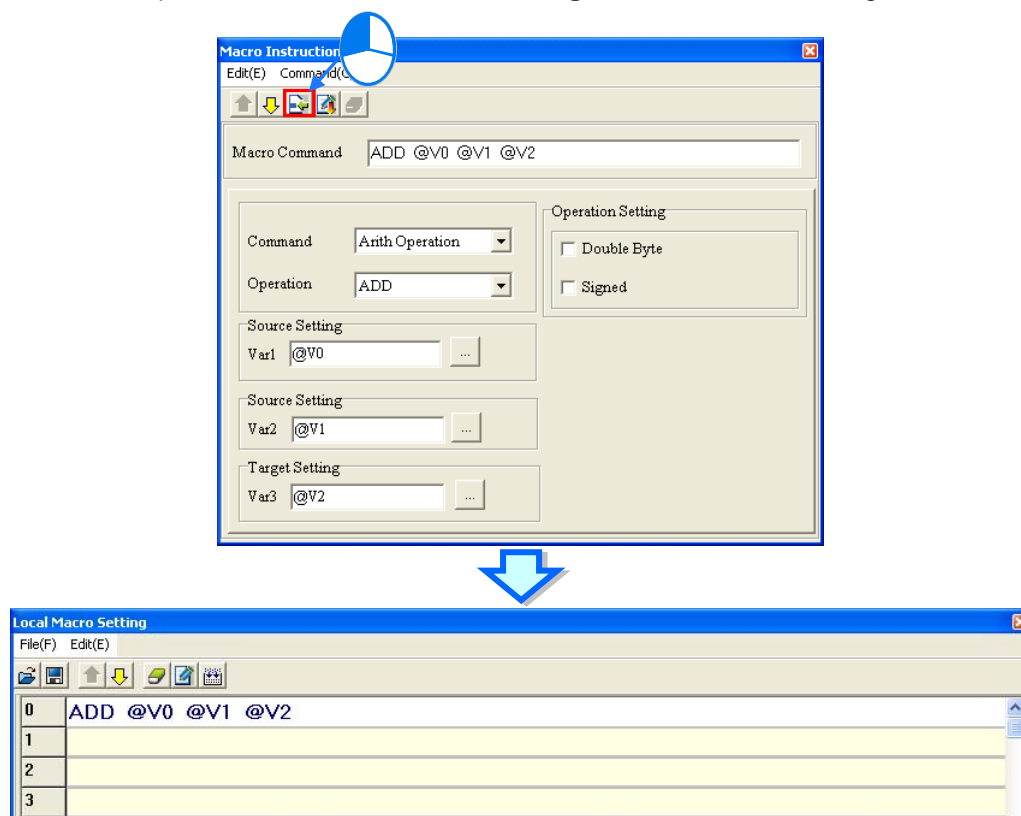

Figure 5-14 Inserting an instruction in a line
After the users click **Insert (I)** on the **Edit (E)** menu, or  on the toolbar, the instruction set will be written to the line specified in the **Local Macro Setting** window, as shown in Figure 5-14.